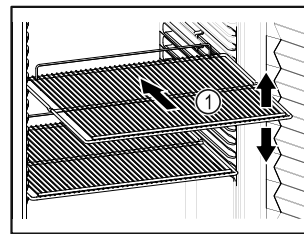

Fig. 61 Example illustration
- ☐ If there are adjustable shelves Fig. 61 (1), position them as required.